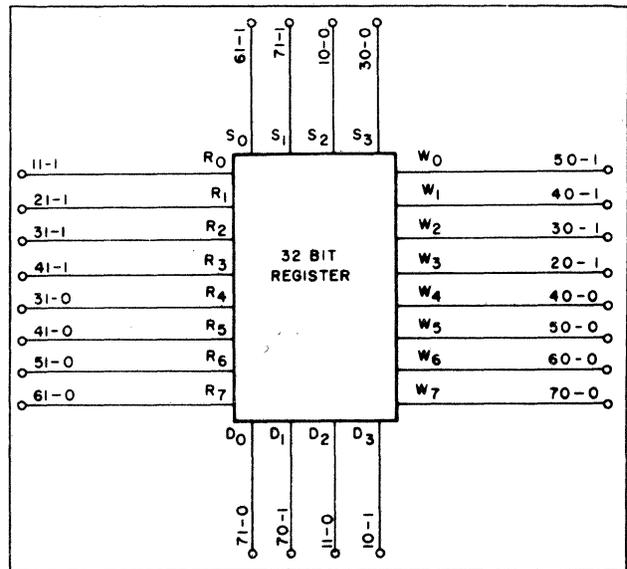

Figure 3-11. 35-014 Four Bit By Eight Word Register Stack, Logic Diagram
The 35-014 board is a 32 bit register arranged as eight, four bit words as shown in Figure 3-11. The memory cells are true dual rank non-destructive readout registers with isolated input (S) and output (D) buses. A register may be interrogated repeatedly without disturbing its content. One word may be written into while reading another. Also, the same information may be written into two different words simultaneously. It is also permissible to read a word while writing new information into that word. The data will change on the negative going edge of the Write pulse (WO-W7) with bit to bit stagger not exceeding 10 nanoseconds.